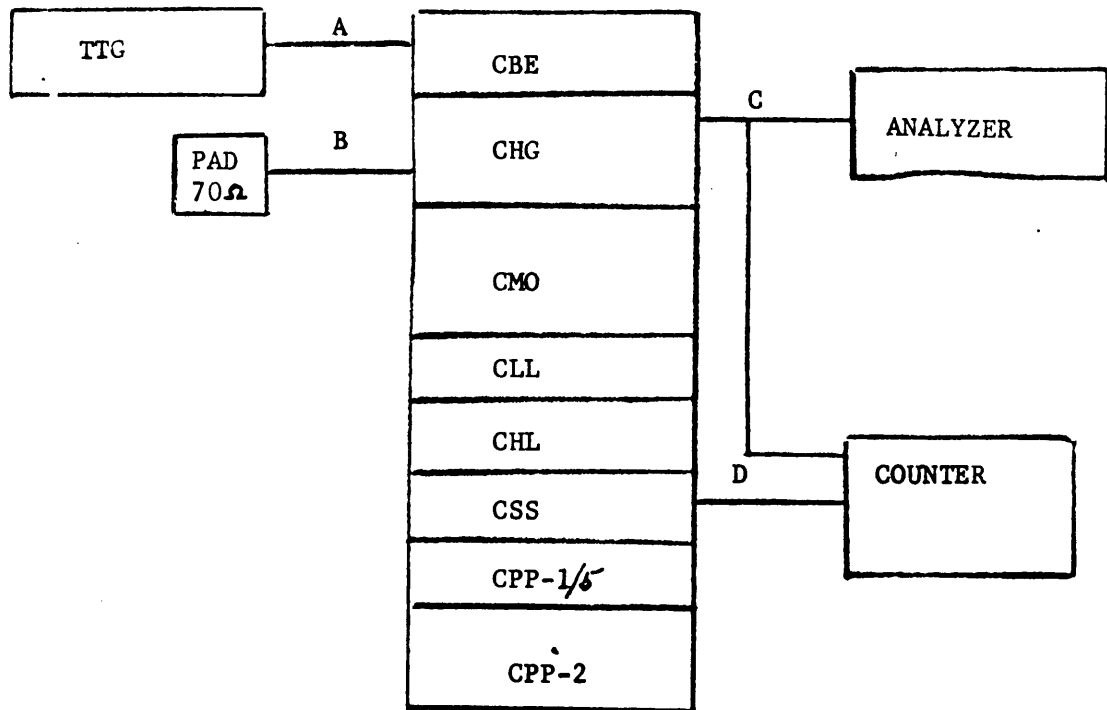

Figure III-6-1: TEST EQUIPMENT SETUP FOR SYNTHESIZED EXCITER
III-6-1: SYSTEM CHECKOUT PROCEDURES (figure III-6-1)
- (e) Connect test equipment as shown in Figure III-6-1.